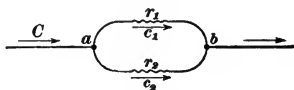

FIG. 51.
**69.** Fig. 51 represents a derived circuit of two branches.
When the resistances of the two branches are unequal, the current will divide between them in inverse proportion to their respective resistances. In Fig. 51 the resistances of the two branches are  $r_1$  and  $r_2$ . Therefore,  $c_1:c_2::r_2:r_1$ .
In Fig. 51, the conductivities of the branches are  $\frac{1}{r_1}$  and  $\frac{1}{r_2}$ . Hence, their joint conductivity when connected in parallel is  $\frac{1}{r_1} + \frac{1}{r_2} = \frac{r_2 + r_1}{r_1 r_2}$ ; now, since the resistance of any conductor is the reciprocal of its conductivity, then the *joint resistance* of the two branches in parallel is the reciprocal of their joint conductivity; or,  $1 \div \frac{r_2 + r_1}{r_1 r_2} = \frac{r_1 r_2}{r_2 + r_1}$ . Hence, joint resistance
**EXAMPLE.**—In Fig. 51, given  $r_1 = 2$  ohms and  $r_2 = 3$  ohms; find their joint resistance in parallel.